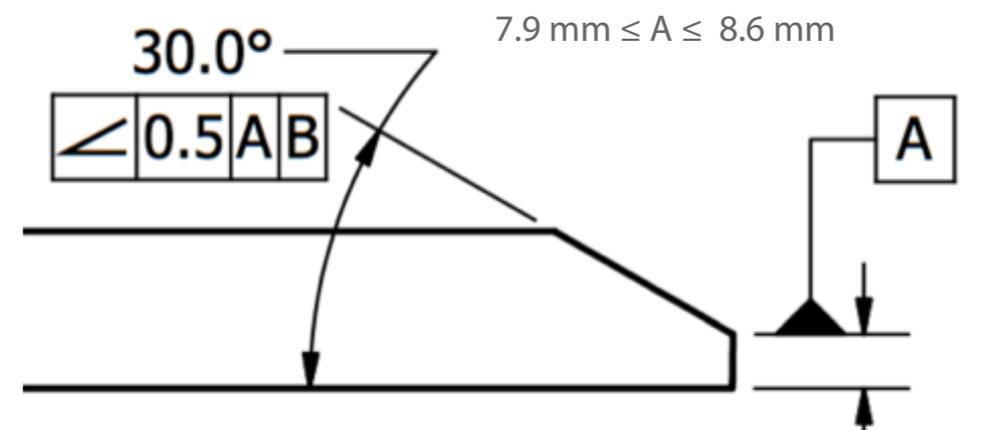

Fig.16
10. Once the cut is complete, (Fig 12) shows the handlebar protruding slightly from the SGI-7 Cutting Jig. This is correct. Remove handlebar and inspect the work. If a low quality or old cutting blade was used, or if the cut was made in an inconsistent motion, the handlebar might be left with a slight step at the end of it (Fig 13). This step must be sanded off using a piece of sandpaper on a flat surface (Fig 14). Refer to (Fig 15) for an example of what the finished product should look like. Check the drawing in (Fig 16) for required dimensions.